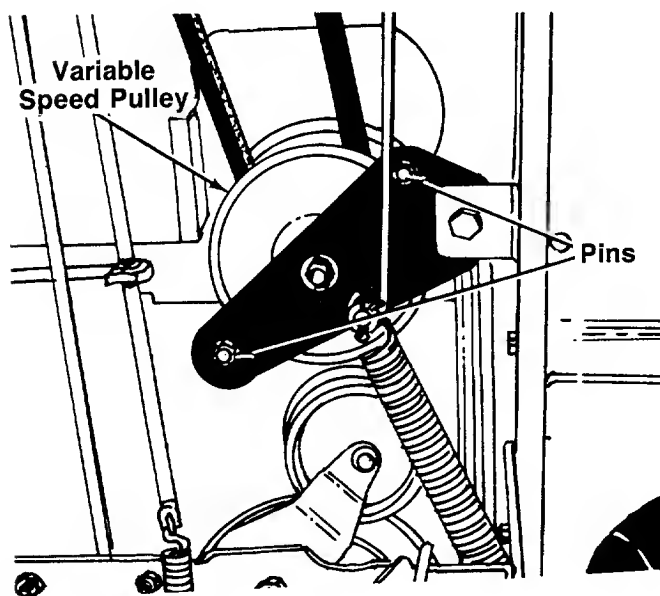

**FIGURE 20.**
6. Remove the engine pulley belt guard by slipping it back and to the right. See figure 20.